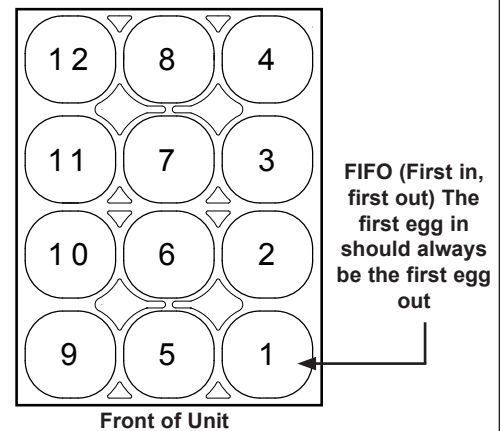

Figure 2. Egg Cooking Procedure
5. Crack the eggs into the Egg Rings from Front to Back, right to Left as shown in Figure 2.
14. Raise the Egg Rack completely off the eggs and remove the eggs starting with the **FIRST** egg added (Figure 2). Continue removing the eggs in the order they were added until all eggs have been removed.